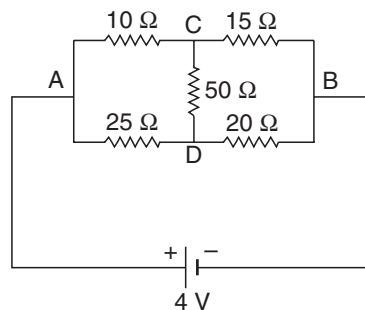

Fig. 63
21. Determine the magnitude and direction of flow of current in the branch CD for the circuit shown in the above Fig. 63. [Ans. $7/755\ \text{A}$ from C to D]